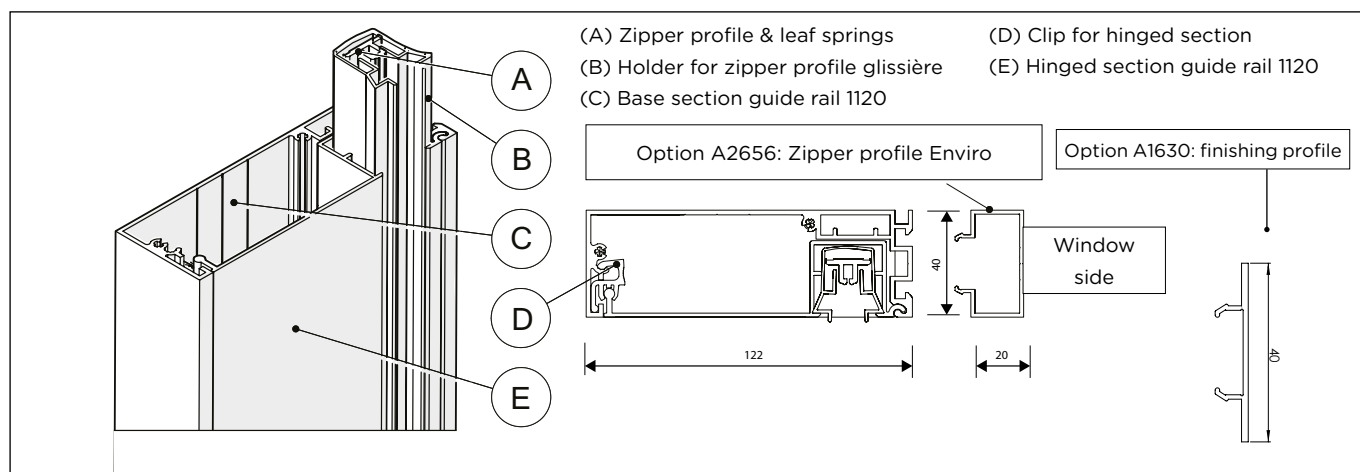

Fig. 7a: General structure and cross-section of the conductor 1120
The complete wide 1120 guide rails are made up of a base section (C), a hinged section (E) and a holder (B) with zipper profile (A), and at the bottom of the base section of each guide rail an aluminium end cap. On the window-side, the hinged section hinges into the base section of the guide rail and on the outside the hinged section clicks into the plastic clamps (D) that can be found on the base section (see figure 7a). The holder and the zipper profile can only be inserted when the hinged section is closed. This is because the holder and the zipper profile are 35 mm longer than the guide rail and are first placed in the box and then further in the recess of the hinged section.